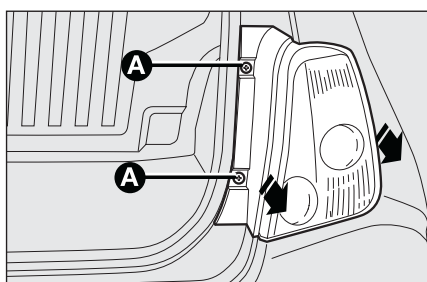

fig. 26
- unscrew the two fastening screws **A**-fig. 26 and extract the light cluster axially without rotating it;